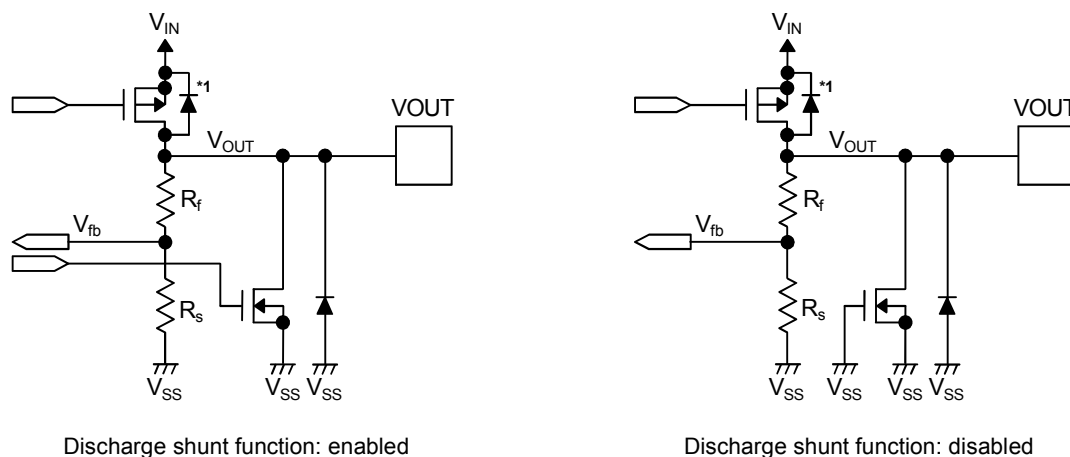

**Figure 25**
**Figure 25** shows a block diagram of the regulator block.